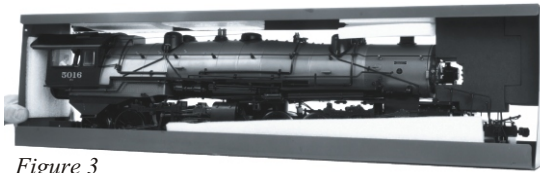

Figure 3
2. With the metal shipping frame attached set the engine on flat work surface as shown in Fig. 3.